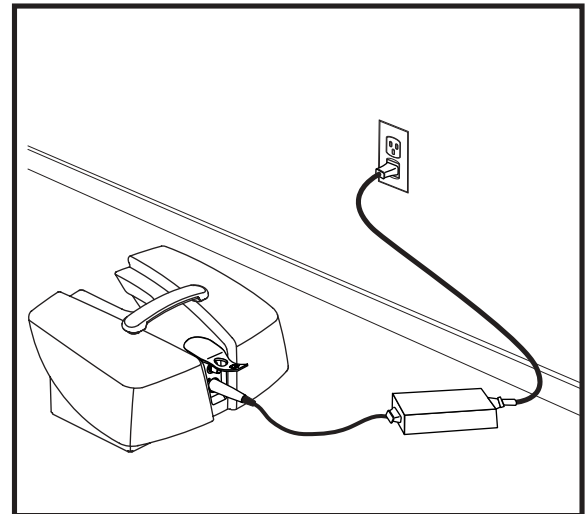

Figure 22. Battery Charging (Battery Box Removed)
2. Position the battery box next to a standard electrical outlet. See figure 22.